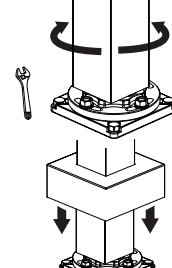

Figure 28
8. Before tightening the screws, rotate the tub filler body to the preferred position for the spout as shown in Figure 28.
9. Slide the decorative flange over the floor flange until it is flush with the floor as shown in Figure 28.